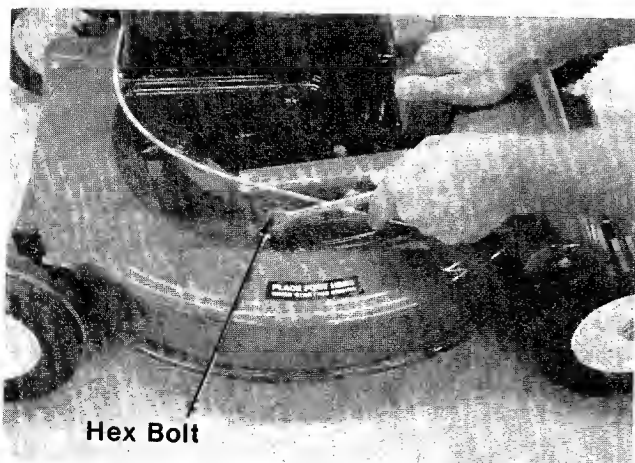

FIGURE 14.
1. Loosen (do not remove) the hex bolt on each side of the pinion pivot plate. See figure 14.